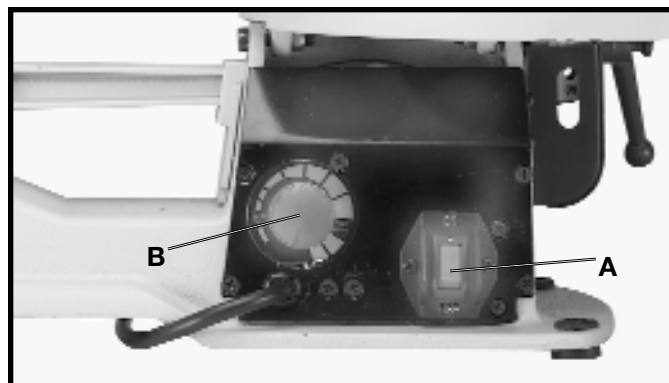

Fig. 17
The on-off switch (A) Fig. 17, and variable speed switch (B) is located on the right side of the scroll saw base, as shown. To turn the saw "ON," push the switch (A) up to the "ON" position. To turn the saw "OFF", push the switch (A) down to the "OFF" position.
The scroll saw is equipped with a variable speed control knob (B) Fig. 17. The variable speed range is 400 to 1800 strokes per minute. When the variable speed knob is rotated all the way to the left (counterclockwise) the speed will be 400 strokes per minute. To increase the speed, rotate knob (B) to the right (clockwise) until the desired speed is obtained. When the knob (B) is rotated all the way to the right (clockwise) the speed will be 1800 strokes per minute.